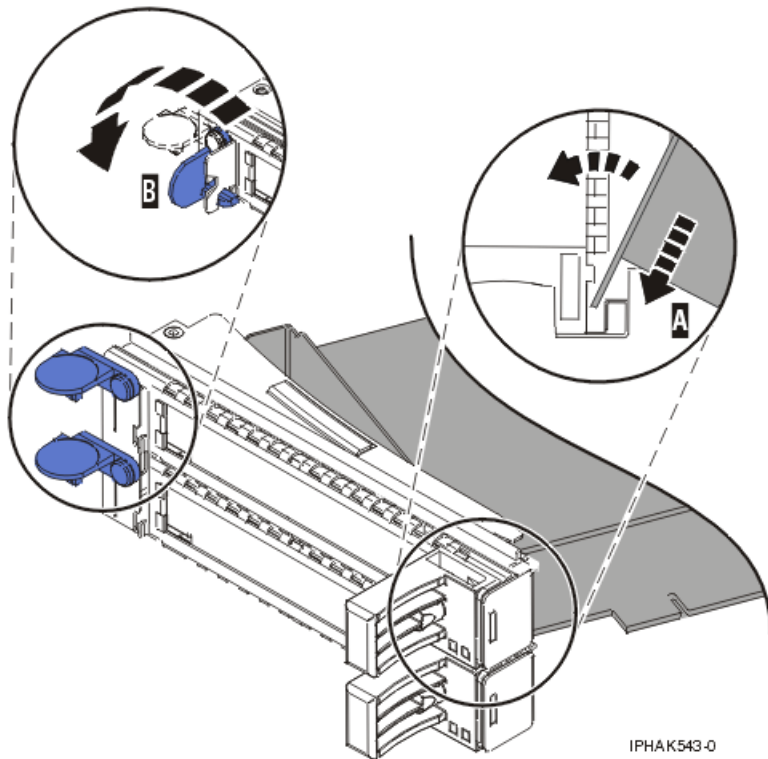

Figure 74. Adapter replaced in the PCI adapter cassette
- a. With the tailstock clamp in the open position, insert the adapter firmly into the tailstock retaining channel A. See Figure 74 on page 81.
- d. Position the adapter retainers to support the adapter, and then rotate the retainer clip **B** into the closed position. See Figure 74.